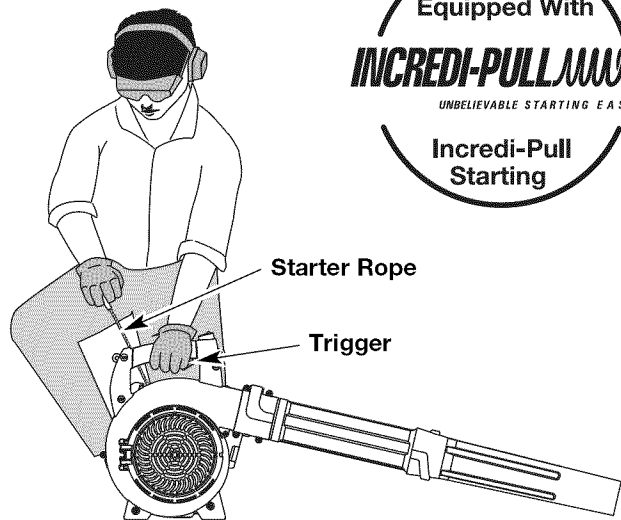

Fig. 13
**WARNING:** Avoid accidental starting. Make sure you are in the starting position when pulling the starter rope (Fig. 13). To avoid serious injury, the operator and unit must be in a stable position while starting. To avoid serious personal injury, make sure that the blower tube is locked in place or firmly installed.
**NOTE: The unit should be started in idle speed. Do not squeeze the trigger while starting** (Fig. 13).
5. Crouch in the starting position (Fig. 13) and pull the starter rope out until you feel some resistance. This is usually around 2-4 inches. Pull 4 times in smooth and rapid pulls.
6. Place the choke lever in Position 2 (Fig. 13).
9. Place the choke lever in Position 3 (Fig. 13). The unit is ready for use.